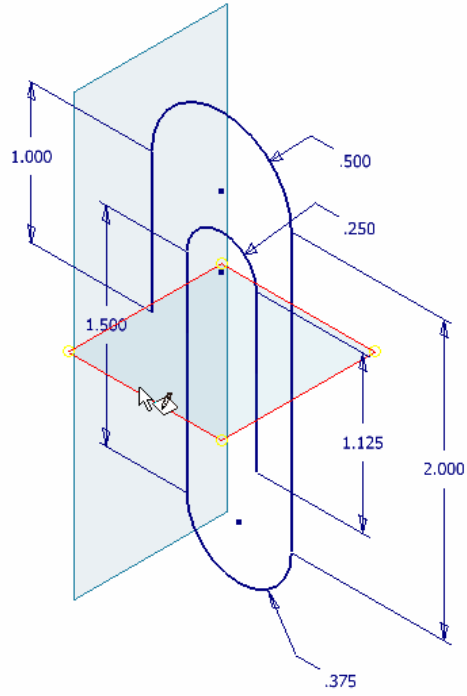

Figure 2
- ❑ Select the XZ plane as your new sketch plane as shown in Figure 2.